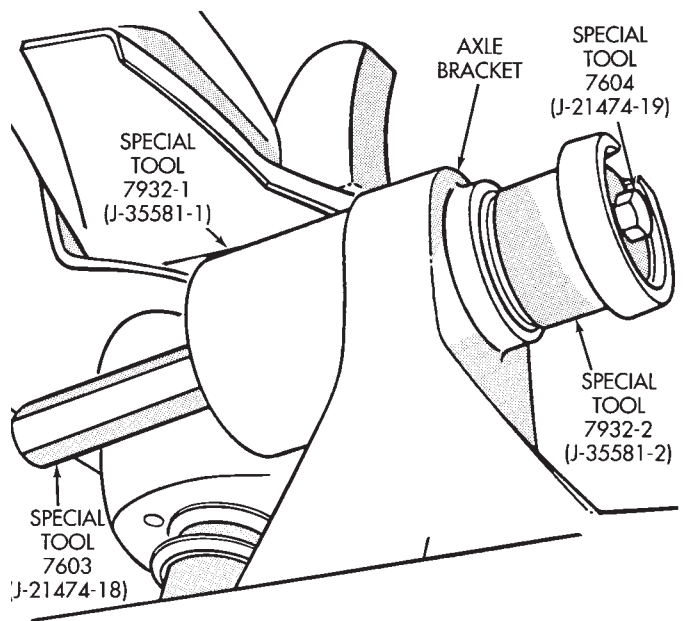

Fig. 5 Bushing Removal
- (1) Remove the upper suspension arm from axle.
- (2) Position spacer 7932-1 (J-35581-1) over the bushing in the axle for two-wheel drive axles and right side on Model 30 axle.
- (3) Install Bushing Removal/Installer (Fig. 5).
- (4) Remove the bushing by tightening the Long Nut.